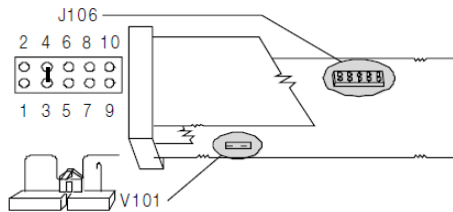

Figure 1.
1. Open V101 switch for Basic/Advanced Configuration (Figure 1)
4. Close V101 switch after Basic/Advanced Configuration (Figure 1)